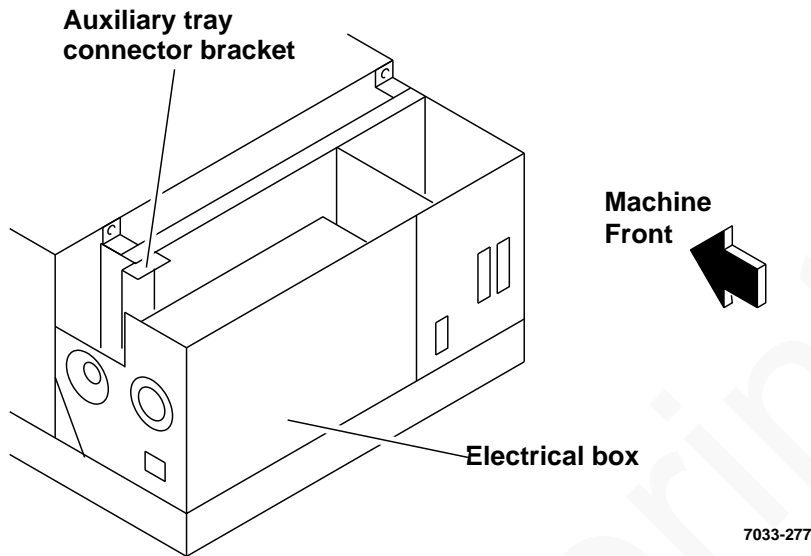

Figure 4. Auxiliary tray bracket removal
- d. Remove auxiliary tray connector bracket (Figure 4).